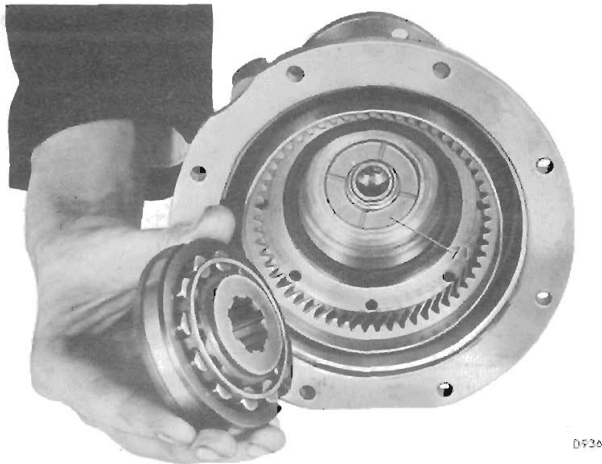

Fig. 23. Fitting uni-directional clutch to annulus
Refit the thrust washer (71) and uni-directional clutch (Fig. 23) transferring the clutch direct from the assembly tool. Fit the brass oil thrower ring (68) and secure with circlip (67).